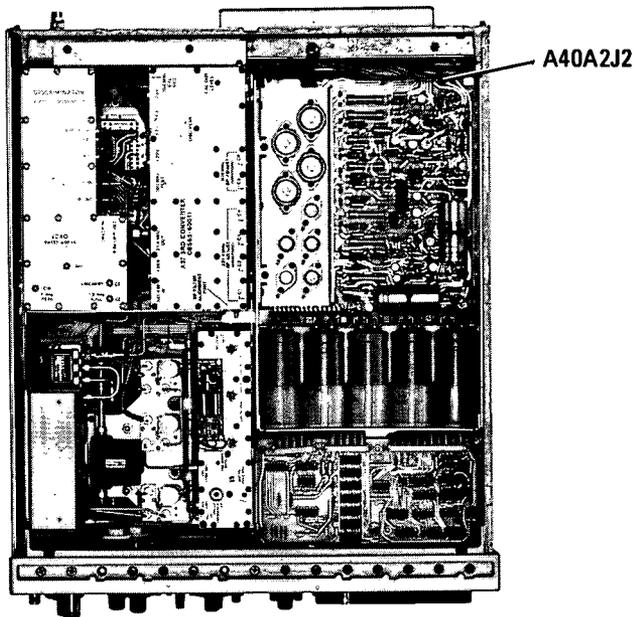

Figure 5-2. A40A2 Adjustment Location
- c. Adjust +15V REF A40A2R17 for +15.00 Vdc \pm 0.005 Vdc at A40A2J2-11 (Figure 5-2).